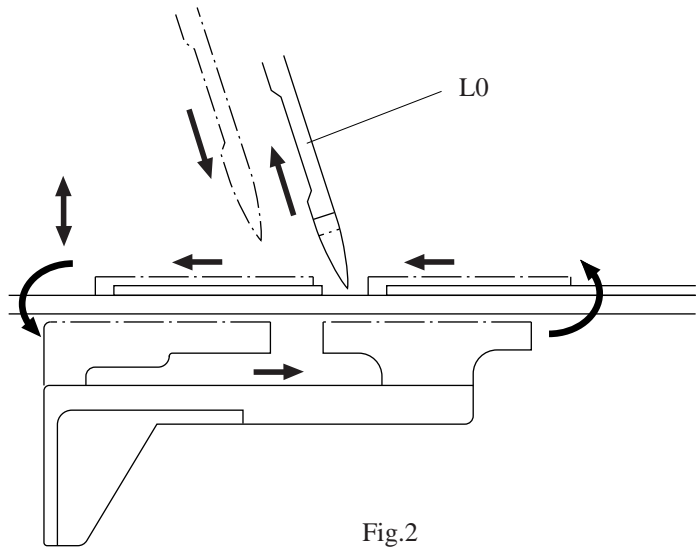

Fig.2
5. Height of moving cutter: Turn the handwheel to bring moving cutter to its lowest position. Check to make sure that the tip of moving cutter blade is at **0.5mm** below the fixed cutter. (Fig.2) If necessary, loosen screw "c" and adjust height by sliding moving cutter "d" up or down. Tighten screw "c" firmly and recheck its height.